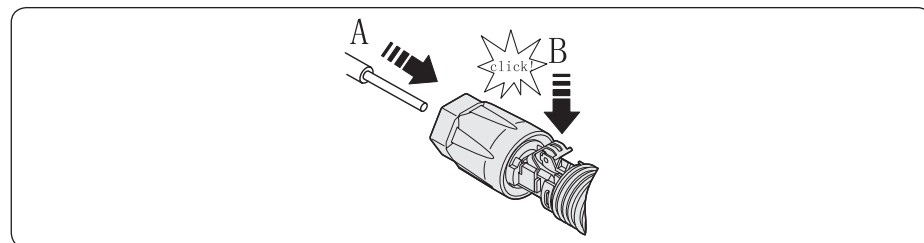

Figure 4-19
- 4) Insert the stripped DC cable to the battery connector deep enough and toggle the clamping bracket to make sure it tightly locked with the stripped cable, as shown in Figure 4-19: